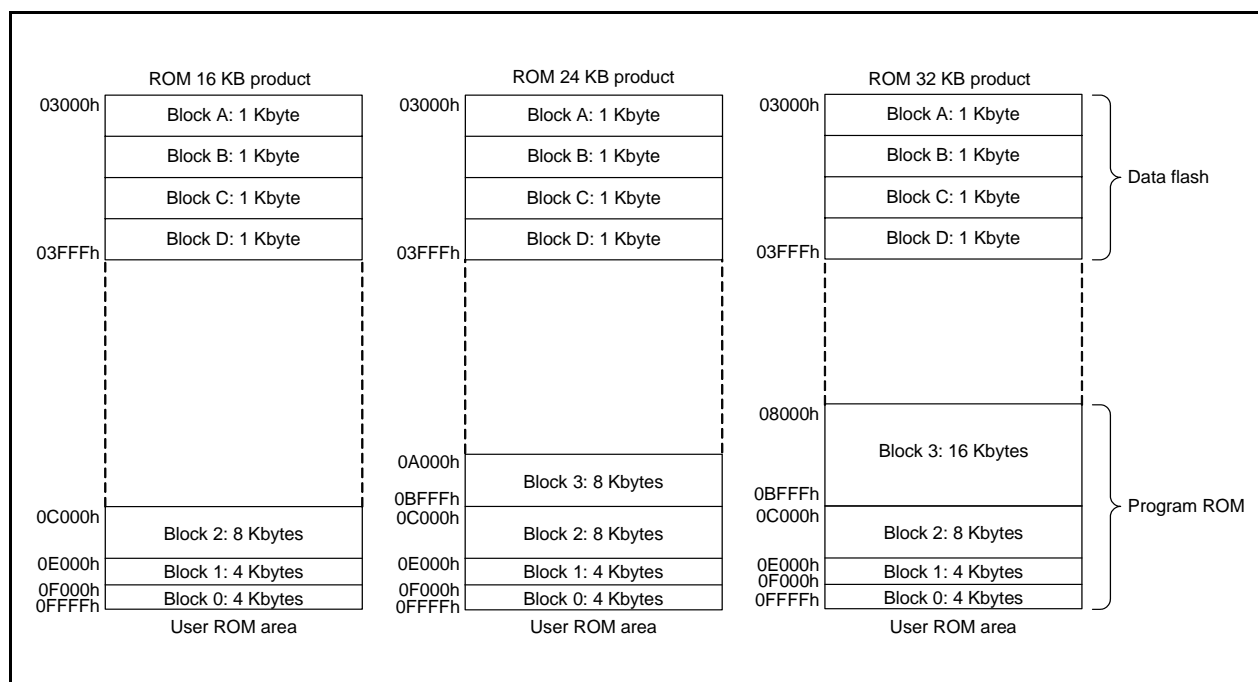

Figure 32.1 R8C/34M Group Flash Memory Block Diagram
- The number of blocks and block division vary with the MCU. Refer to **Figure 32.1 R8C/34M Group Flash Memory Block Diagram** for details.
Figure 32.1 shows the R8C/34M Group Flash Memory Block Diagram.